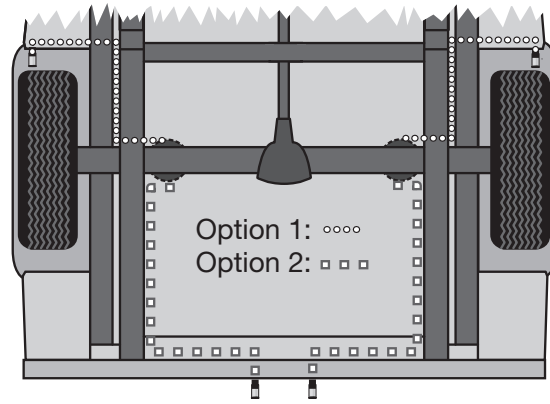

fig. 10
1. Choose a convenient location for mounting the inflation valves (Fig. 10). Popular locations for the inflation valve are: